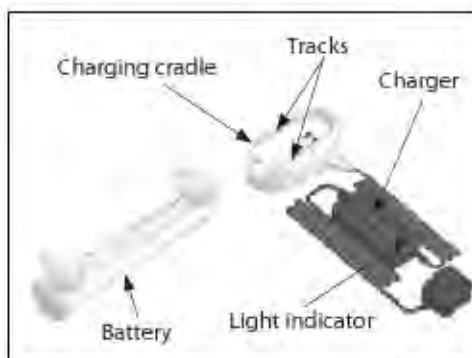

Figure 1
1. Charge the battery by sliding it into the tracks on the charging cradle (**fig 1**) and plugging it into a power socket/outlet.